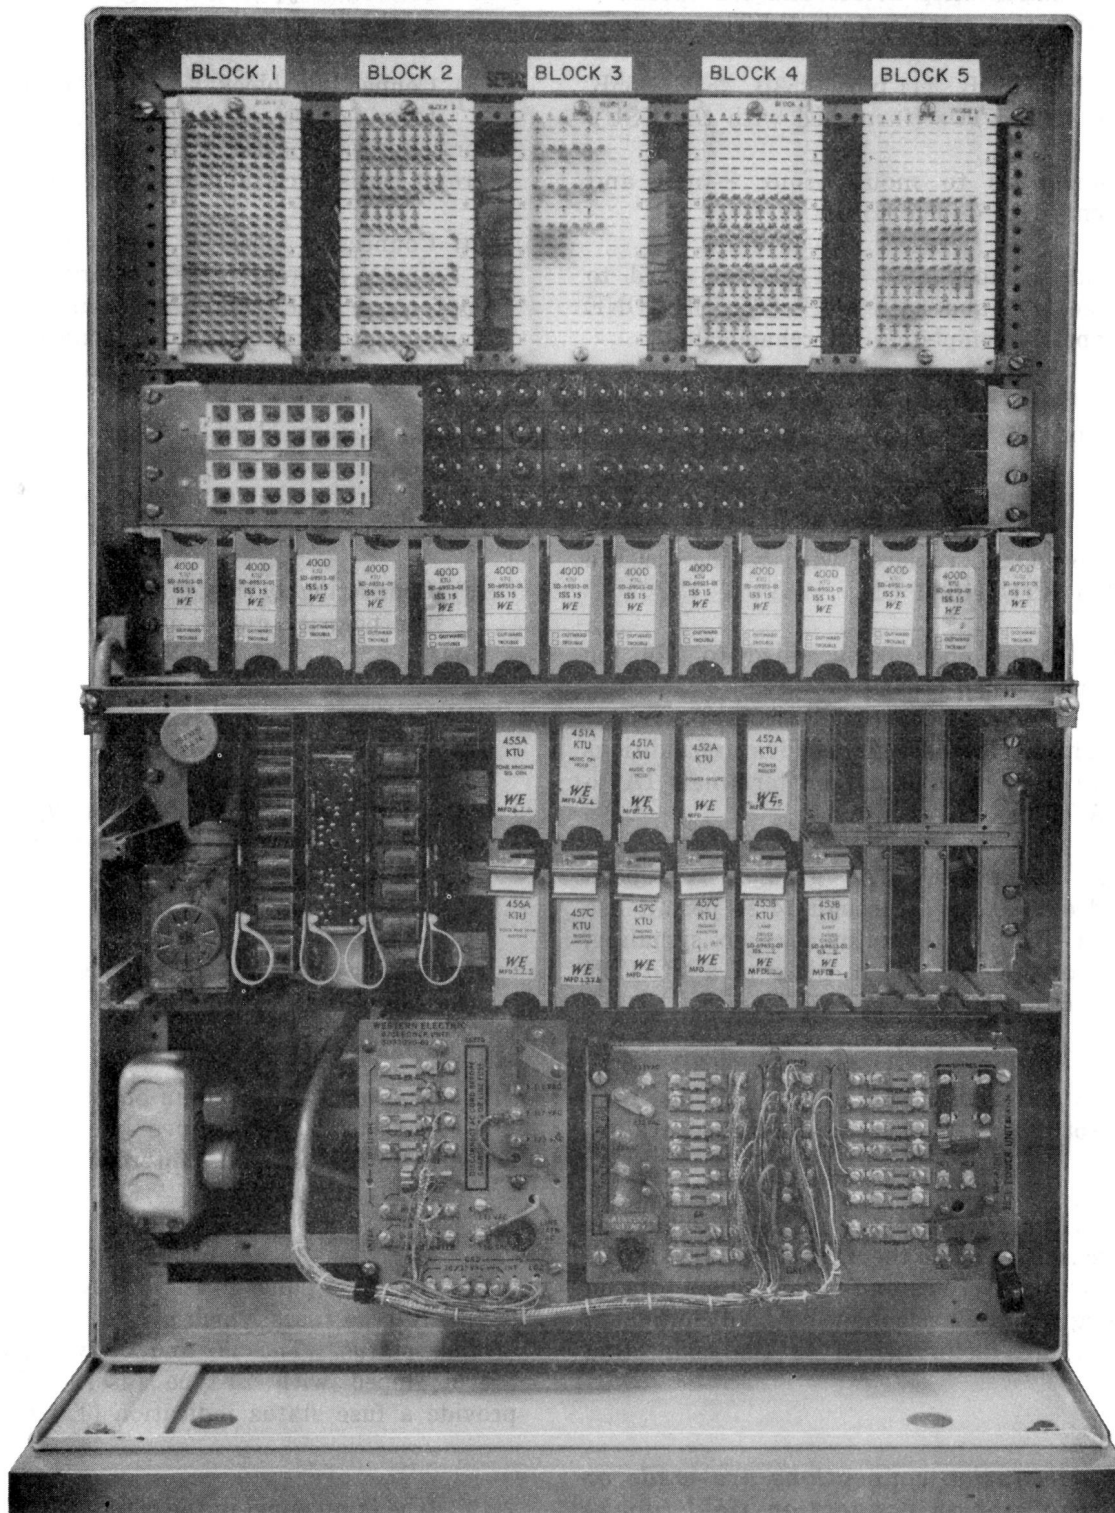

Fig. 1—580-Type KSU (Cover Removed)
2.07 The 580A KSU (MD) is a 120A apparatus box with a removable front and rear cover and is designed for floor mounting only (Fig. 1 and 2). It contains the following components: